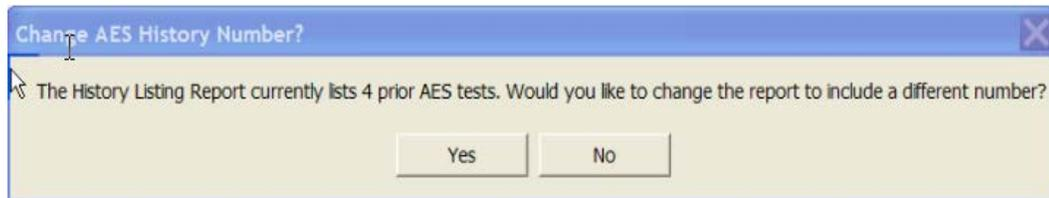

Figure 100. AES History
(1). Press sample count to display on history listing (Figure 100).